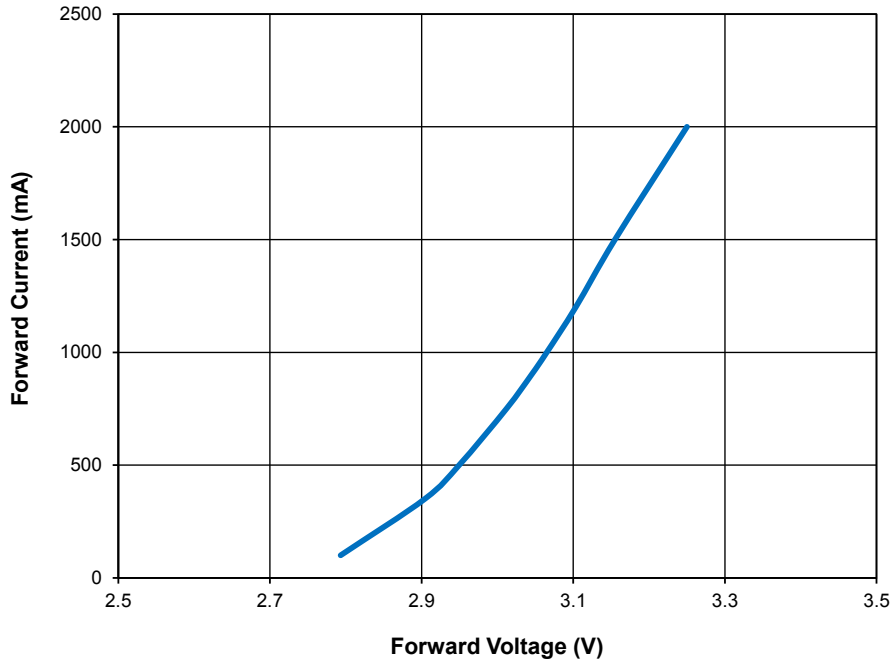

Figure 10.
3. Dynamic resistance is the inverse of the slope in the  $I_f$  vs.  $V_f$  curve and is measured at  $I_f = 2000$  mA (see Figure 10).